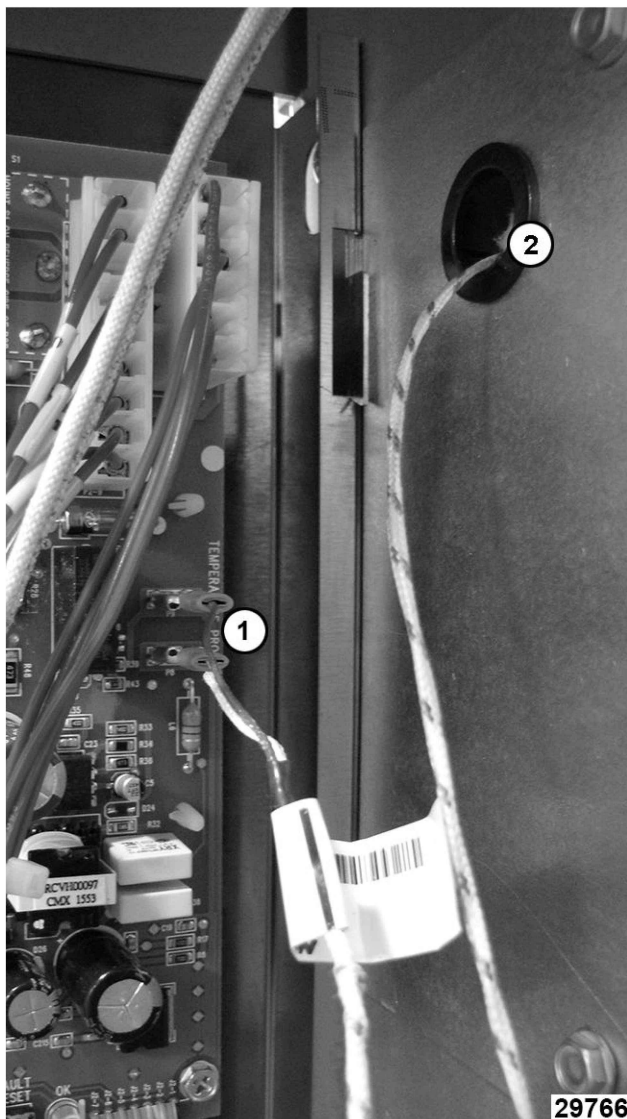

Fig. 10
2. Disconnect the probe leads (1, Fig. 10) from the solid state temperature control.
5. Remove probe by pushing it through the oven wall opening (2, Fig. 10) in control panel area.